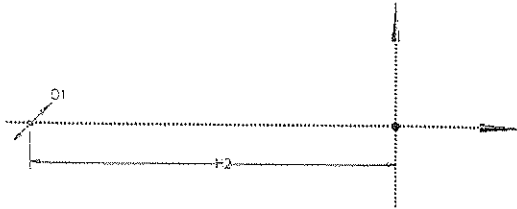

Figure 5-38 Placing the dimension
11. Choose the **General** tool and then place the dimension of the circular profile, as shown in Figure 5-38.
15. Next, click on the Y axis to specify the horizontal dimension and then place the dimension anywhere on the screen, refer to Figure 5-38.